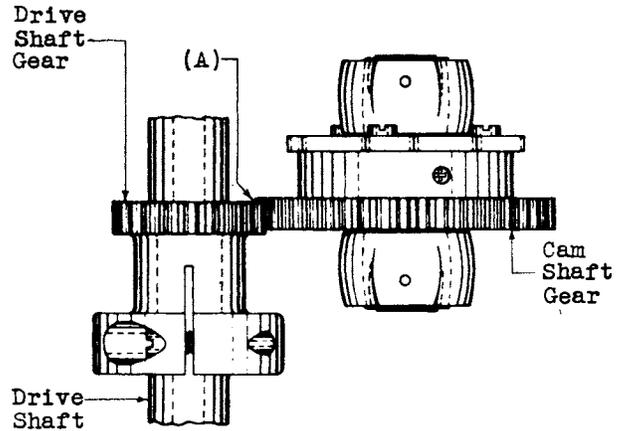

Fig. 5
**2.05 Backlash Between Gears** - Fig. 5 (A) - This shall be kept as small as possible without causing the gears to bind in any position of their rotation. Gauge by feel.